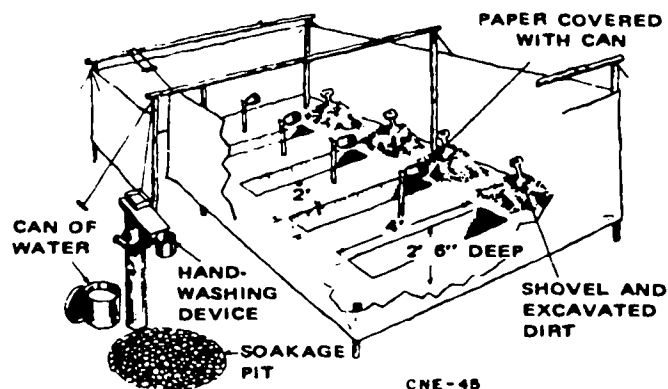

Figure 2-5. Straddle trench latrine.
**Straddle trench.** The straddle trench latrine (see fig. 2-5) consists of a trench 1 foot wide, 2½ feet deep, and